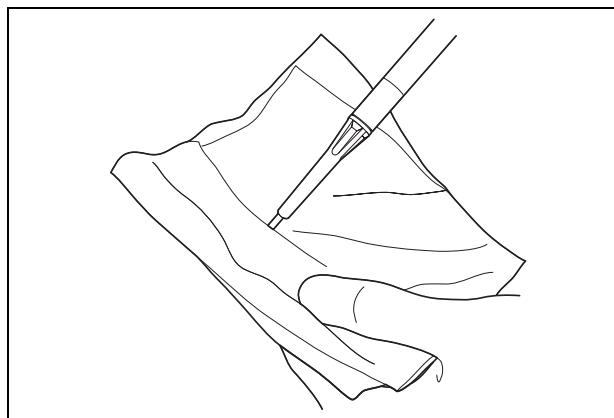

Figure 5.5
1. Place the probe tip in a container or on a piece of gauze to collect cooling water (see Figure 5.5).